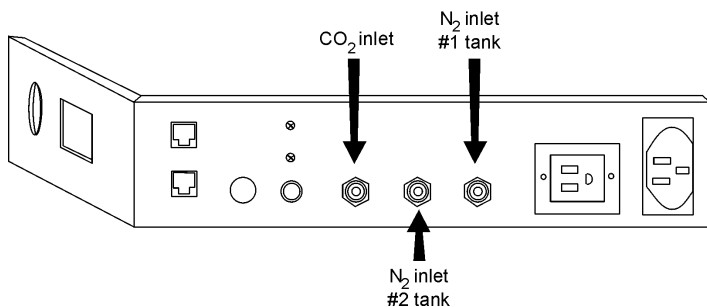

Figure 6-8, N₂ fittings
b. Connecting the N₂ Gas Supplies (refer to Figure 6-8):